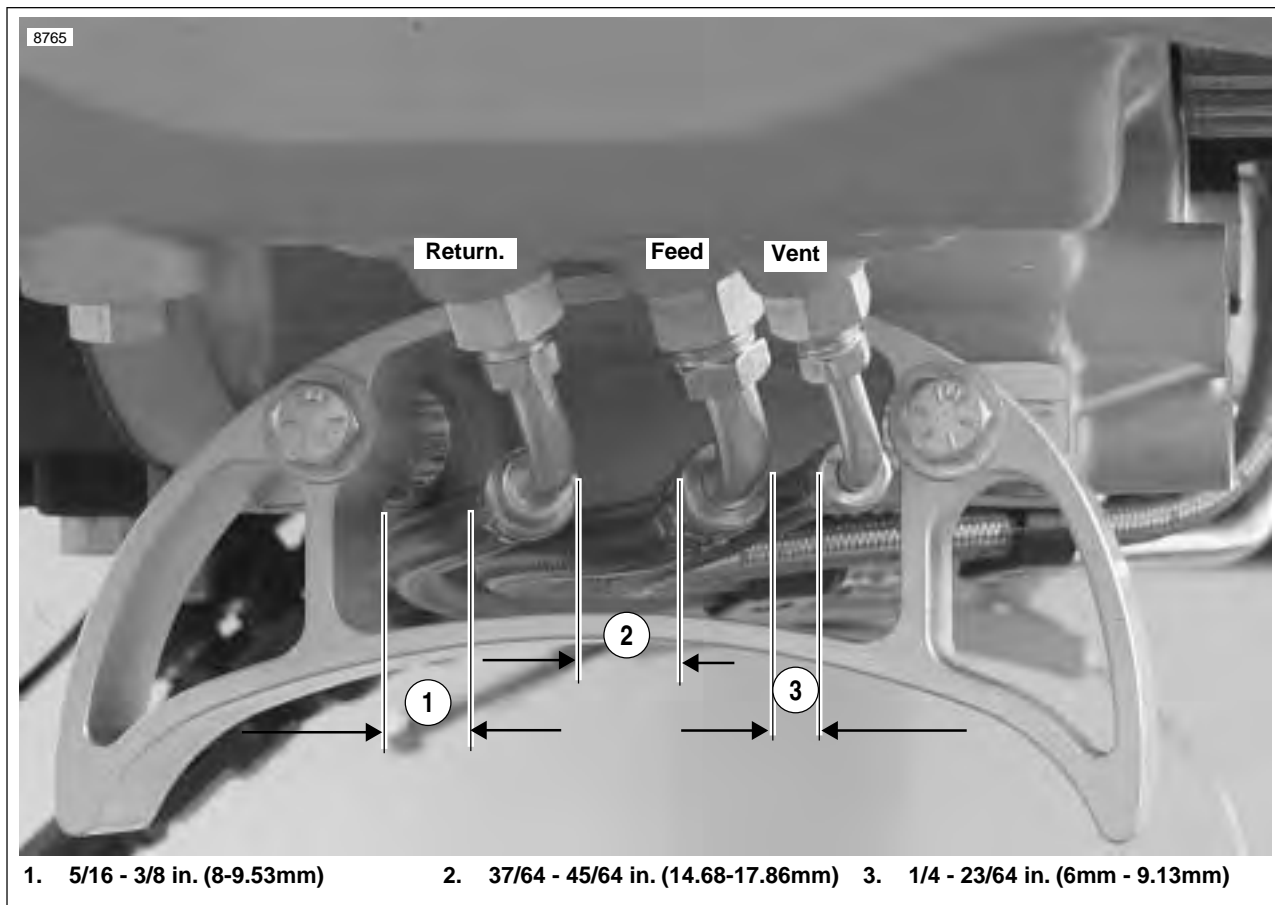

Figure 3-49. Oil Line Clearances and Torques
21. See Figure 3-49. Torque the return oil line first making sure to maintain the proper clearance between the oil line and the rear muffler bracket. 19-21 ft-lbs (25.8-28.5 Nm.)